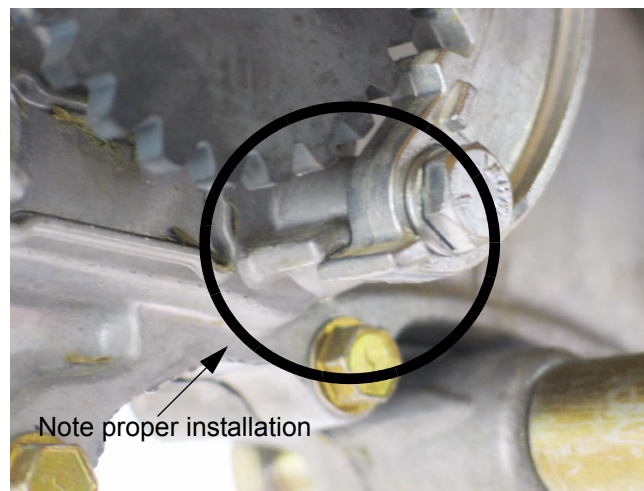

Figure 6.9
- 6.9. Remove the bolt securing the brake arm to the transmission using a 7/16" socket. See Figure 6.9.